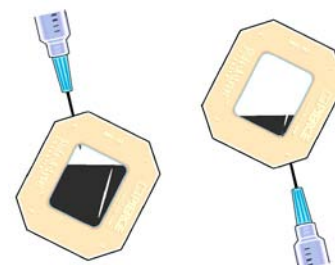

Figure 3. Sample removal
3. Turn the unit so that needle is on the bottom and allow the sample to collect near the port. Withdraw the sample into the syringe (Figure 3).
- Penetrate the gasket with the needle through a top, unused syringe guide port. Discharge air into cassette cavity to separate membranes, which prevents needle penetration of the membrane (Figures 3 and 7).